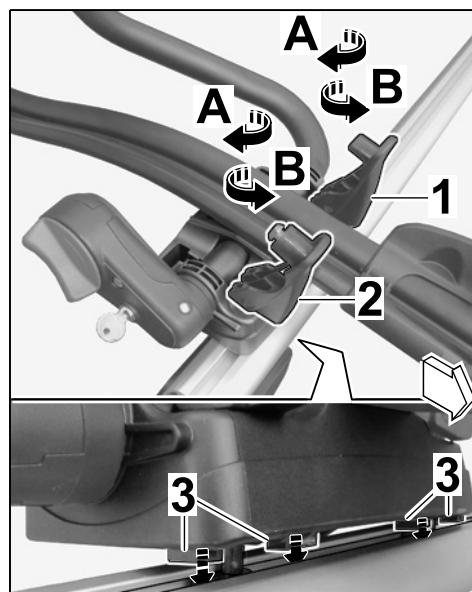

Figure 10
4.7.1 Turn the tensioning lever on the retainer plate (front) clockwise by 10 to 12 turns (⇒ Figure 10-A-).
If the tensioning lever will not close: Turn the tensioning lever anti-clockwise by one or two turns (⇒ Figure 10-B-).